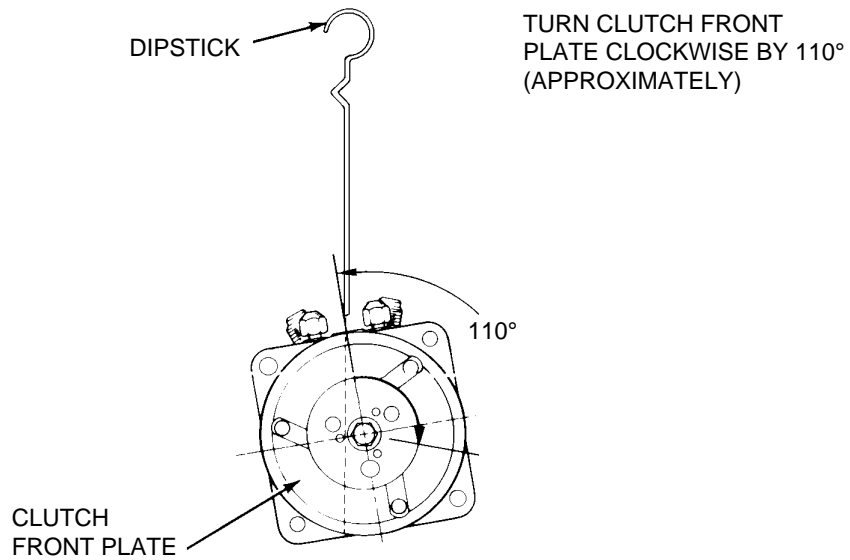

Figure 21-29. Rotation of Clutch Front Plate (Sankyo Compressor Oil Check)
5. Rotate the clutch front plate clockwise by approximately 110°. (Refer to Figure 21-29.)